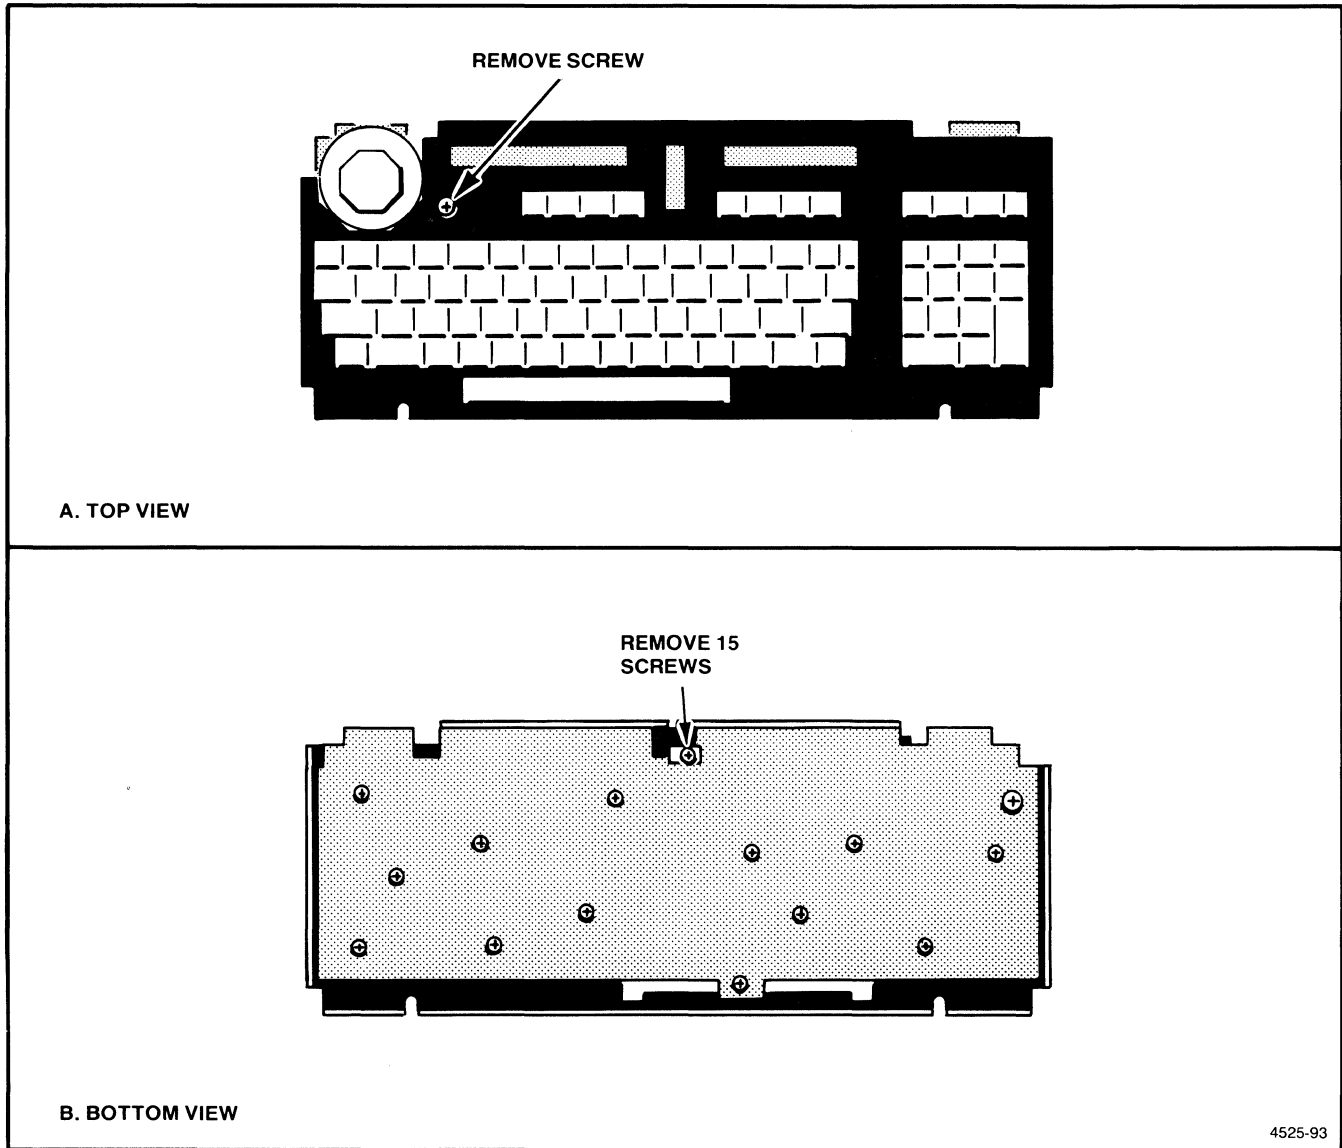

Figure 6-23. Keyboard Circuit Board Mounting Screws.
9. Unscrew the 13 small Phillips screws from the Keyboard circuit board. See Figure 6-23.
10. Now, unscrew the three screws from the circuit board, also shown in Figure 6-23.